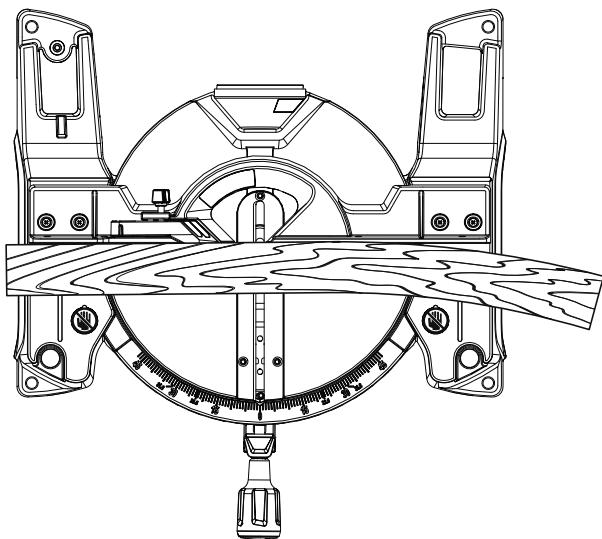

Fig. 32
- Place the workpiece flat on the miter table with one edge securely against the fence. If the board is warped, place the convex side against the fence. If the concave edge of a board is placed against the fence, the board could collapse on the blade at the end of the cut, jamming the blade. See *Figures 32 - 33*.
See Figures 32 - 33.
When cutting warped material, always make sure it is positioned on the miter table with the convex side against the fence as shown in figure 32.